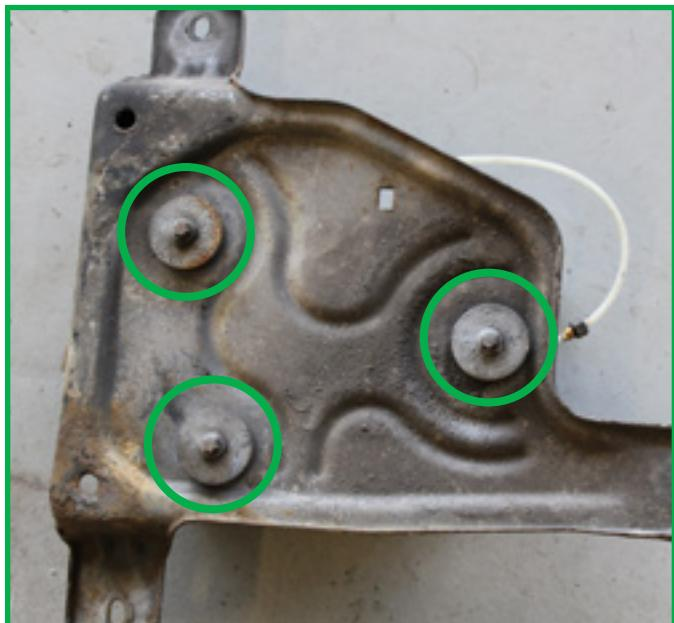

FIGURE 10
2. Remove the three (3) torx screws that secure the mounting bracket to the compressor. (Figures 10, 11)